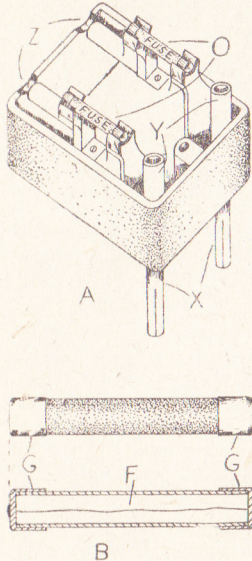

Fig. 1—A safety adaptor
One type of safety adaptor with the cover removed is indicated in view (A) Fig. 1, of the accompanying illustrations. Here we have standard 15 amp. plugs marked (X), which fit into the 15 amp.
The cartridge fuse is indicated quite clearly in view (B) Fig. 1, and a cross section of the cartridge shows the fuse wire marked (F) in position, connected to the soft metal ends (G). The fuse wire (F) can be renewed if found blown down to trouble on apparatus, and a simple way of doing the job is as follows.